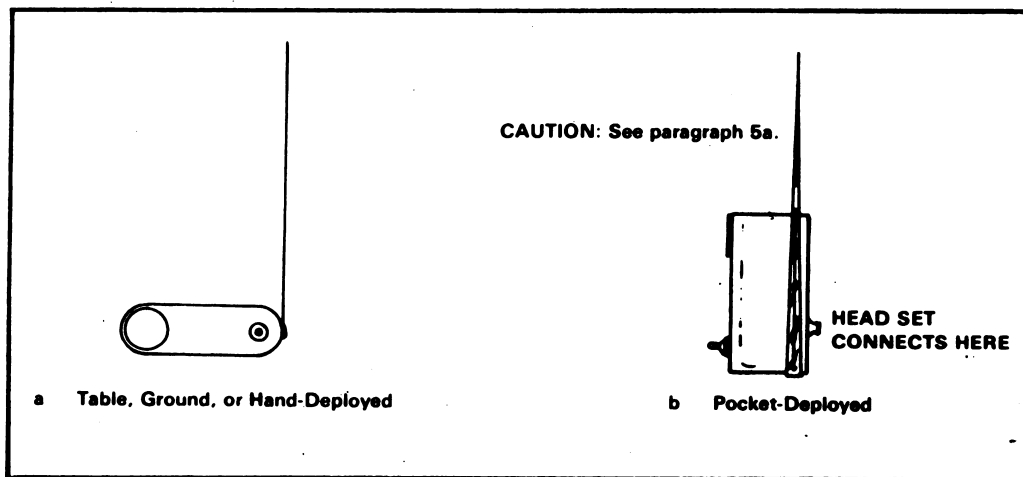

Figure 4. Receiver configuration while in use.
a. The two acceptable configurations in which the receiver set may be utilized are shown in figure 4. In the configuration "a," the receiver may be placed on a table, the ground, or held in the hand. The antenna should be free of any obstruction. In configuration "b," the receiver may be placed in the shirt pocket. CAUTION: The antenna should be on the side away from the body to avoid the possibility of malfunction or poor reception due to body perspiration.